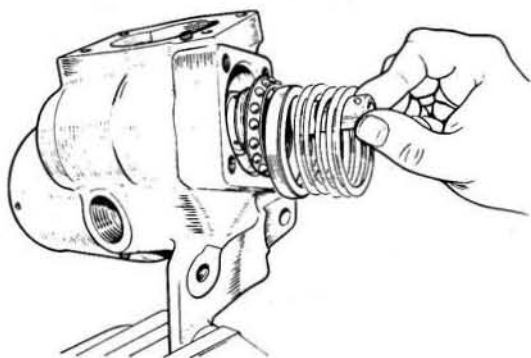

Fig.11.44. Removing the valve and worm assembly
10 Remove the valve and worm assembly (3) complete with the bearing (4) (Fig.11.44). If the bearing is to be replaced, withdraw the outer race. It is essential that none of the shims behind the outer race are mislaid.